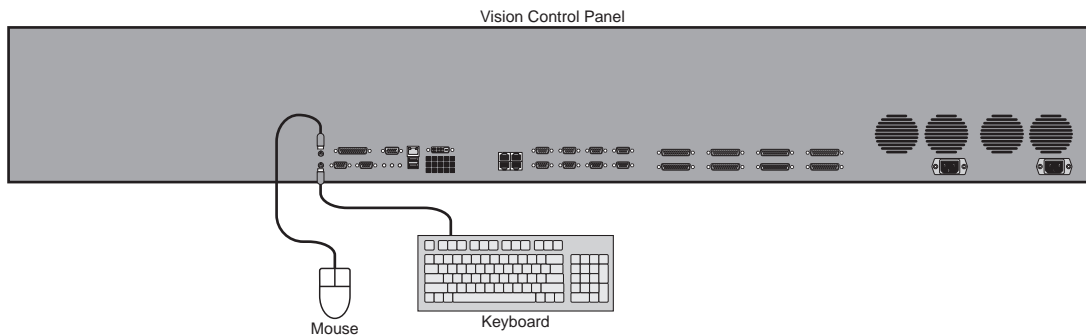

Figure 3.13 Keyboard and Mouse Ports on the Vision Control Panel
- Connect a standard keyboard to the **PS/2 Keyboard** port at the back of the Vision control panel (**Figure 3.13**).
- Connect a standard mouse to the **PS/2 Mouse** port at the back of the Vision control panel (**Figure 3.13**).